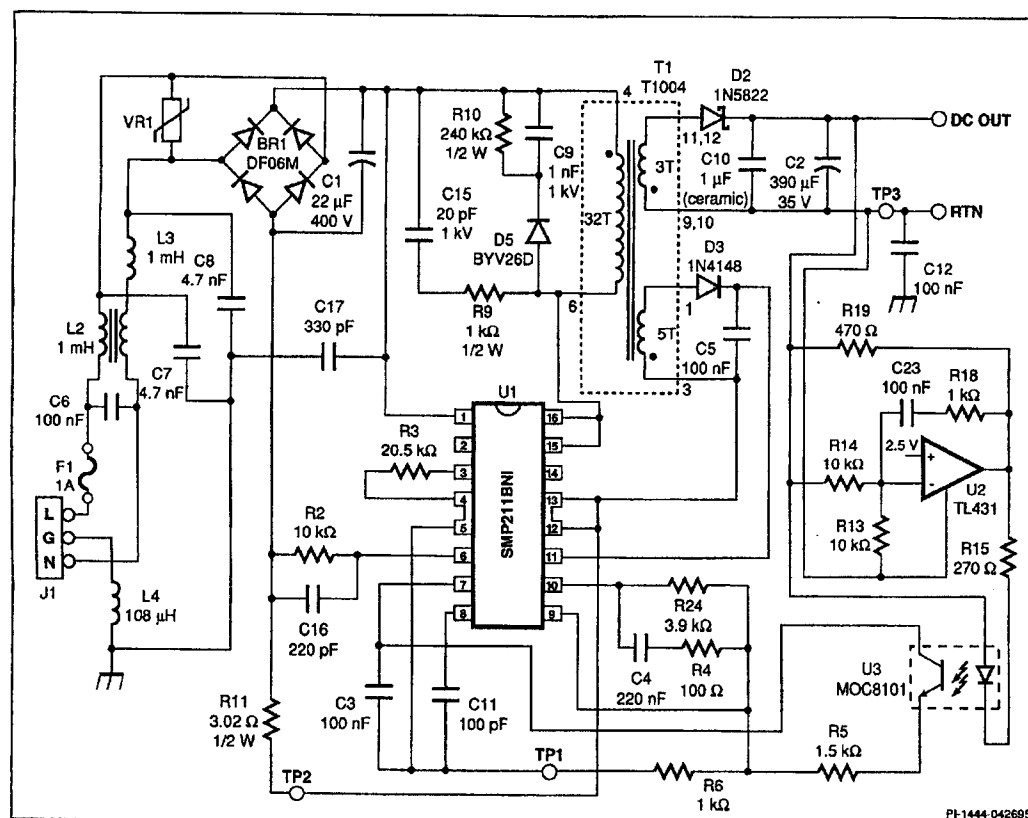

Figure 6. Schematic Diagram of a 5 V, 5 W Universal Input Power Supply Utilizing the SMP211 with Optocoupler Feedback.
The flyback power supply circuit shown in Figure 6 is a 5 volt, 5 watt power supply that operates from 85 to 265 V(rms) AC input voltage. The output voltage is directly sensed and accurately regulated by a secondary-referenced error amplifier. The error amplifier drives an error signal through an optocoupler to the SMP211 which directly controls the duty cycle of the integrated high voltage MOSFET switch. The effective output voltage can be fine-tuned by adjusting the resistive divider formed by R13 and R14. Other output voltages are possible by adjusting the transformer turns ratios as well as the resistor divider.
Performance data is shown below for the power supply circuit given in Figure 6.
**Typical Performance Characteristics (Figure 6 Power Supply)**